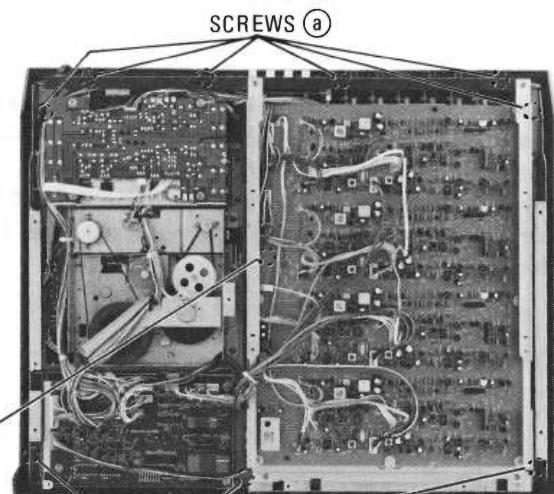

Fig. 4-3-1
- 2) Remove the nine tapping screws (a) and one screw (b) from the bottom side. Refer to Fig. 4-3-1.